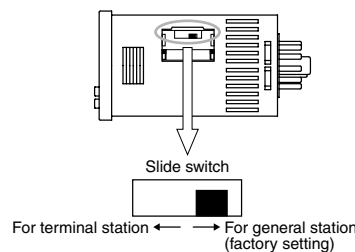

Fig.2
(3) Change the slide switch on the side of Eco-POWER METER as a terminal station (Fig. 2).